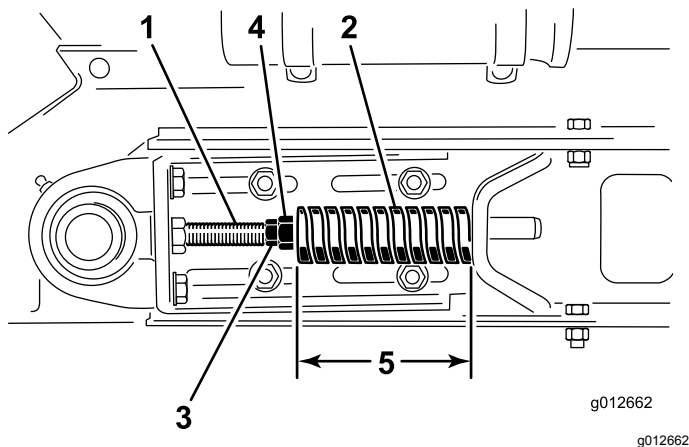

Figure 19
3. Loosen rear jam nut (Figure 19).